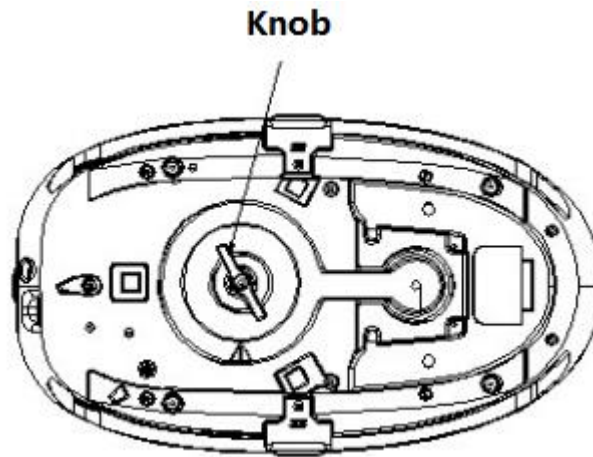

Fig.1
3. Remove the water tank, upend the unit base and put it on a flat surface, then anticlockwise rotate the knob at the bottom of unit base to remove it (see Fig.1) .